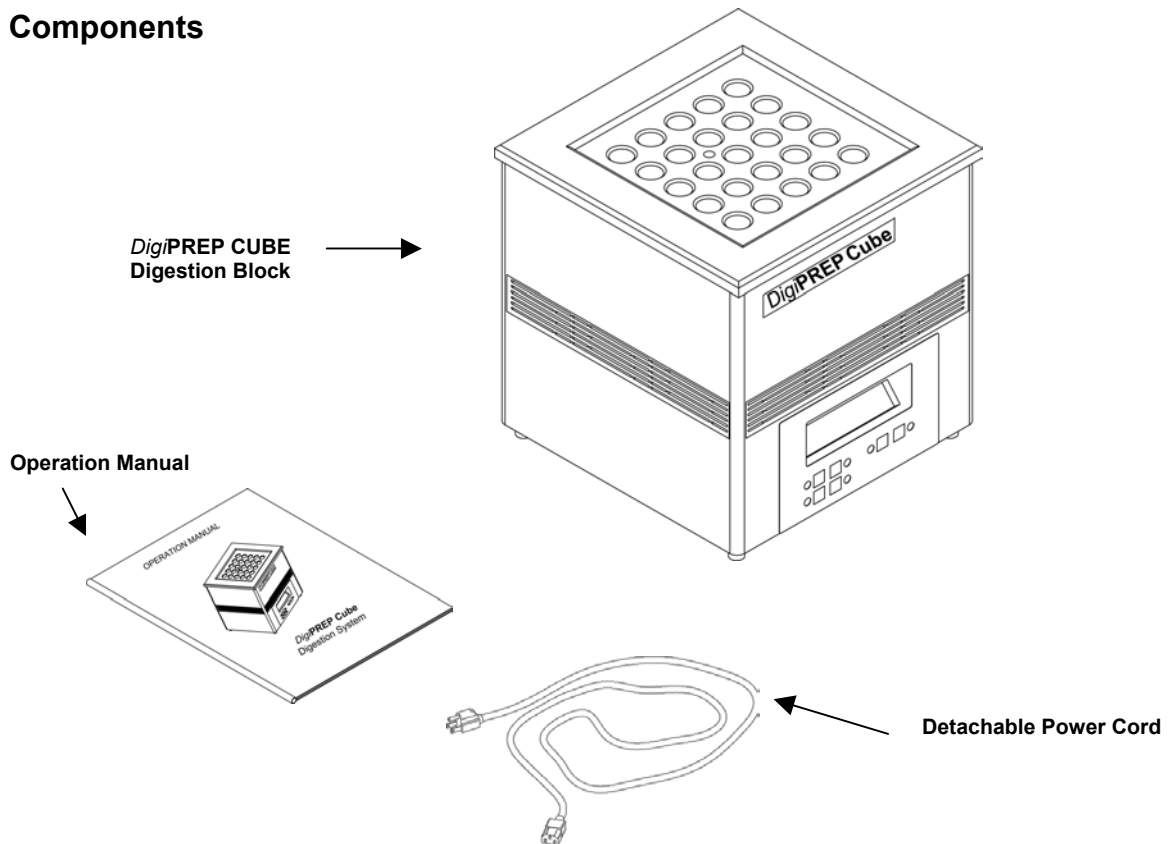

Figure 1: Components
3. Verify that all components listed on page 6 (see figure 1) have been included: